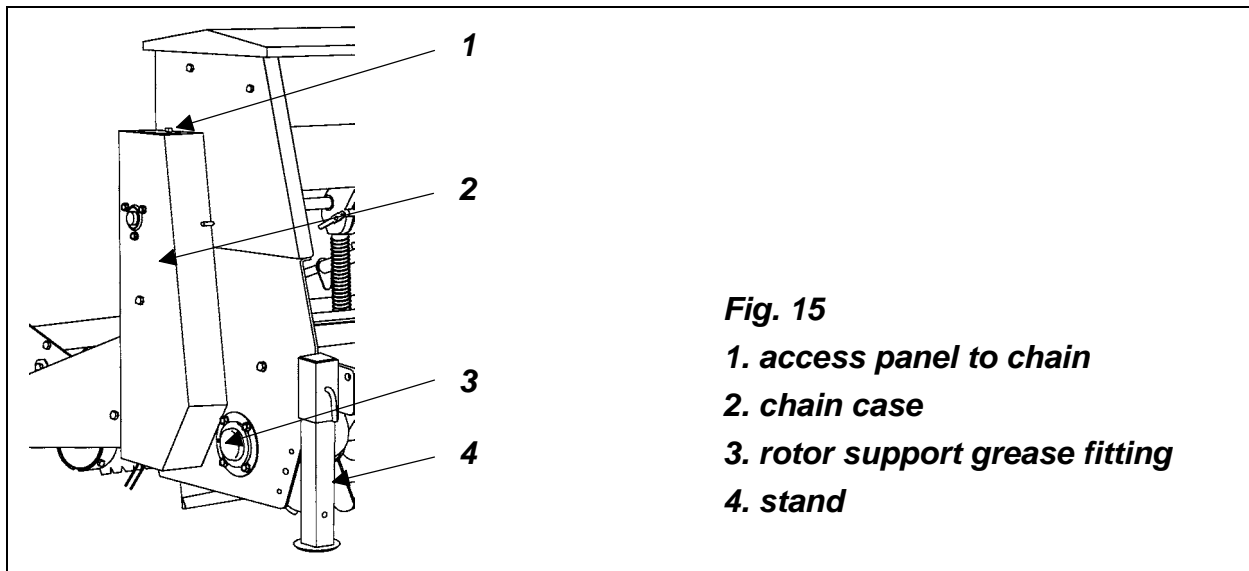

Fig. 15
1. **Grease the rotor support (see fig. 15) and the roller support (see fig. 17), the driveline cross and bearings and the telescopic tubes.** Apply two or three shots of grease to the driveline cross and bearings and the telescoping shafts. Apply the same amount to the rotor and roller bearings.
Check the blades for excessive wear or damage. Be sure the rotor turns freely. Inspect all the drive chains and make sure they are well lubricated (**see fig. 15 & 16**).